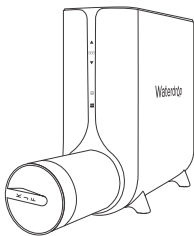
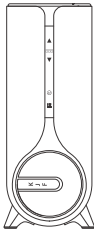

Figure 24
Figure 25
- (3) Install the new filter. Insert the new one into the filter barrel, with the filter handle perpendicular to the display bar (**Figure 24**). Then rotate it 90° clockwise until the filter handle is in line with the display bar (**Figure 25**).